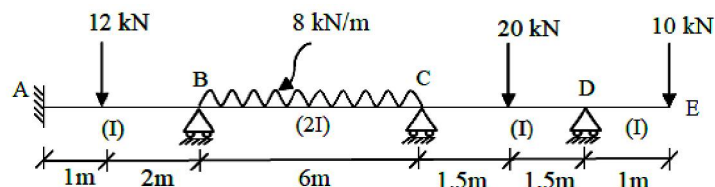

Fig.2
- 2 a) Explain how the effect of settlement of support is taken care of while analyzing the continuous beams using slope deflection method. (5)
b) Analyse the continuous beam shown in fig.2 by slope deflection method and draw the BMD. (10)